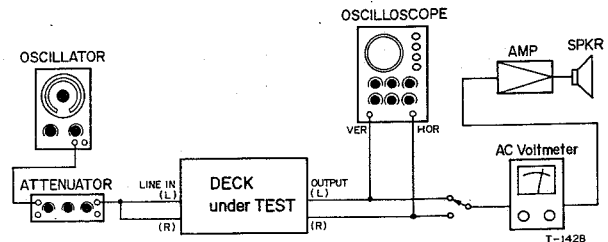

Fig. 5-4 Head Azimuth Adj. Setup
1. Connect the deck and the test equipment as shown in Fig. 5-4
11. Slowly adjust the screw (A) for the maximum indication on the AC Voltmeter.